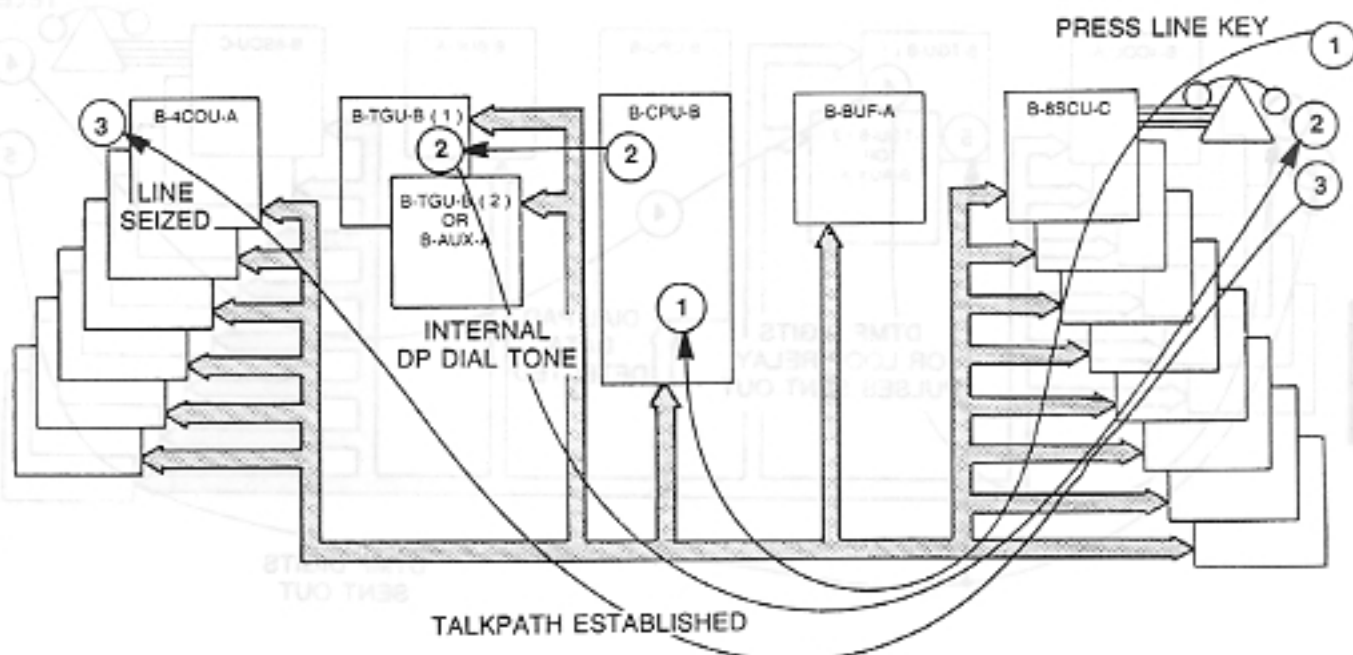

Figure 8-20 PLACING AN OUTSIDE CALL, TCX-128 (Page 1 of 2)
5.09 If the 280 determines that the call should be placed on a Direct Access Line (lines 1-20), the audio connection is from the telephone, through a crosspoint on the B-8SCU-C PCB, to the Direct Access Line path in the KSU backplane, and finally to the audio circuit on the appropriate B-4COU-A PCB (Figure 8-20, signal 3). If the 280 selects a Dial-Up Line to place the call (lines 21-32), connection is from the telephone, through a crosspoint on the B-8SCU-C PCB to an Intercom link, through an additional crosspoint on the B-TGU-B PCB, to the Dial-Up Line path in the KSU backplane, and finally to the audio circuit on the B-4COU-A PCB for the Dial-Up Line.